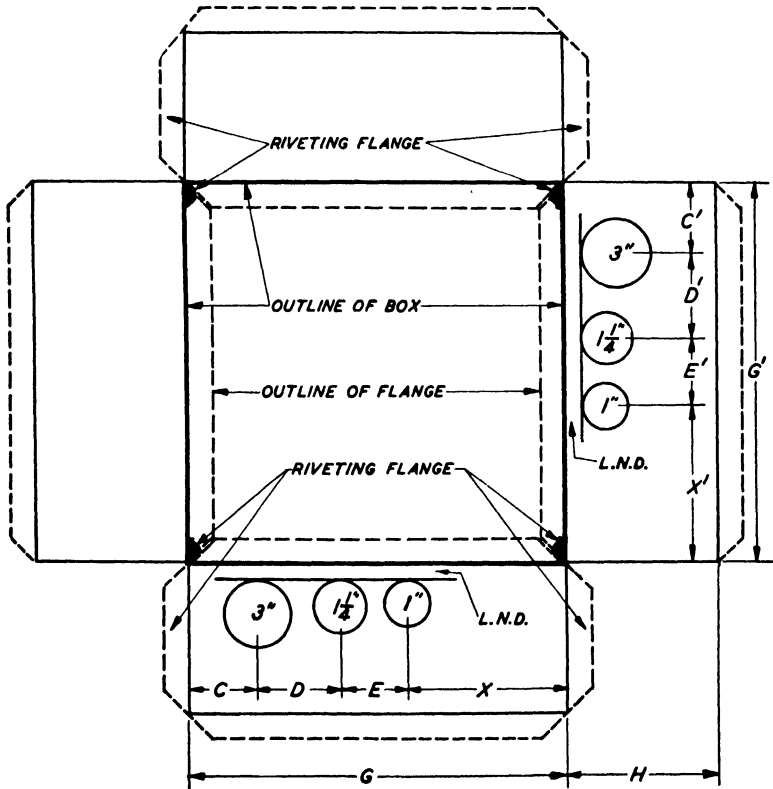

Fig. 35. Sheet Steel Box Layout for a Surface Mounted Pull Box with Screw Cover
**Box Layout.** Fig. 35 shows the layout for cutting the steel and making the box. The heavy line is the outline of the box, and the dotted line on the inside is the outline of the flange at the opening. The light solid lines outside the box denote the development of the box, that is, the outline of the four sides as they would appear if bent outward to lie flat. It is in this space that the dimensions and locations of the conduit entries are shown. On the outside of the light solid lines are dotted lines, which indicate the development of the flange. The flange to the right and left of the top and bottom members is the riveting flange, for holding the box together. In laying out the box it is assumed that it is lying flat with the open side up.
**Drilling Template.** To give the box maker the information that he needs for making a box that will fit the job, so that it can be installed without changes in its structure, you prepare a drilling template, similar to Fig. 35. In the rectangles lying outside the central square, that is, the outline of the box, you draw a circle for each conduit entry coming from the respective direction; these circles may vary according to the relative size of conduit to go into it, or they may all be of the same size. Inside of each circle you place the number denoting the trade size of the conduit to enter at that point; remember that you indicate the size of the conduit, not the size of the hole you want. If you are limited as to space and are not adept at making legible small figures you may have difficulty in marking the conduit sizes, which are expressed with a whole number and a fraction. In such a case do not designate the sizes by inch dimensions but use a numbering system instead, such as Number 1 for  $\frac{1}{2}$ -inch conduit, Number 2 for  $\frac{3}{4}$ -inch conduit, and Number 3 for 1-inch conduit. Be sure to put a notation on the template explaining the use of the numbers.
Fig. 35 shows the conduit entries in a box to be mounted on either wall or ceiling and used for making a 90-degree bend in the conduit run. There is considerable space from the lower right-hand corner of the box to the first conduit, in each direction, the spaces being marked  $X$  and  $X'$ , respectively. These spacings should be large enough to provide a radius from six to seven times the inside diameter of the respective conduits. This radius is necessary to provide an easy sweep for the wires to be pulled in and through the box.
**SOLUTION.** On a sheet of paper draw an outline of a drilling template similar to Fig. 35, except that you need not show any of the dotted lines nor any of the flanges. The lines may all be of the same weight or thickness. In the lower rectangle of the template draw a light guide line parallel to and a little below the outline of the bottom side of the box. This space should be marked LND (lock-nut dimension) similar to Fig. 35.
In this example the conduits align on their tangents. By referring to Table 3, determine the distance between the 3-inch and the  $1\frac{1}{4}$ -inch conduit by going down the first column, headed "Conduit Size," to the number 3, then horizontally to the column headed  $1\frac{1}{4}$ . The number  $3\frac{3}{8}$  is the value of  $D$  and  $D'$ , Fig. 35. The spacing between the  $1\frac{1}{4}$ -inch and the 1-inch conduit is obtained by going down the first column in Table 3 to the number 1, then horizontally to the column marked  $1\frac{1}{4}$  at top. The number  $2\frac{1}{8}$  is the dimension  $E$  and  $E'$ .
The width and length of the box are determined by adding the values of  $C$ ,  $D$ ,  $E$  and  $X$  together, Fig. 35. Thus,  $2\frac{3}{8} + 3\frac{3}{8} + 2\frac{1}{8} + 12\frac{3}{4} = 20\frac{3}{8}$  inches. This is dimension  $G$  and  $G'$ . The depth of the box,  $H$ , should be not less than twice the outside diameter of the largest conduit, or  $2 \times 3\frac{1}{2}$ , that is, 7 inches.